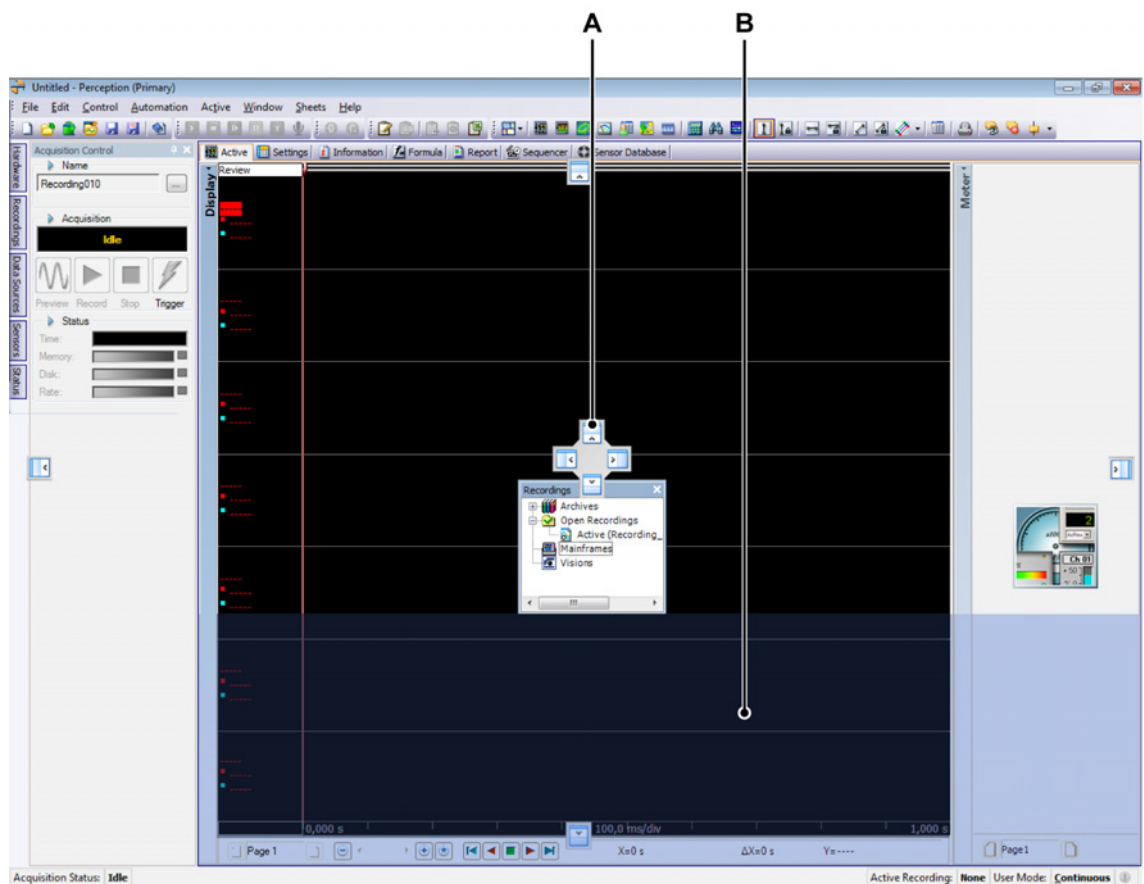
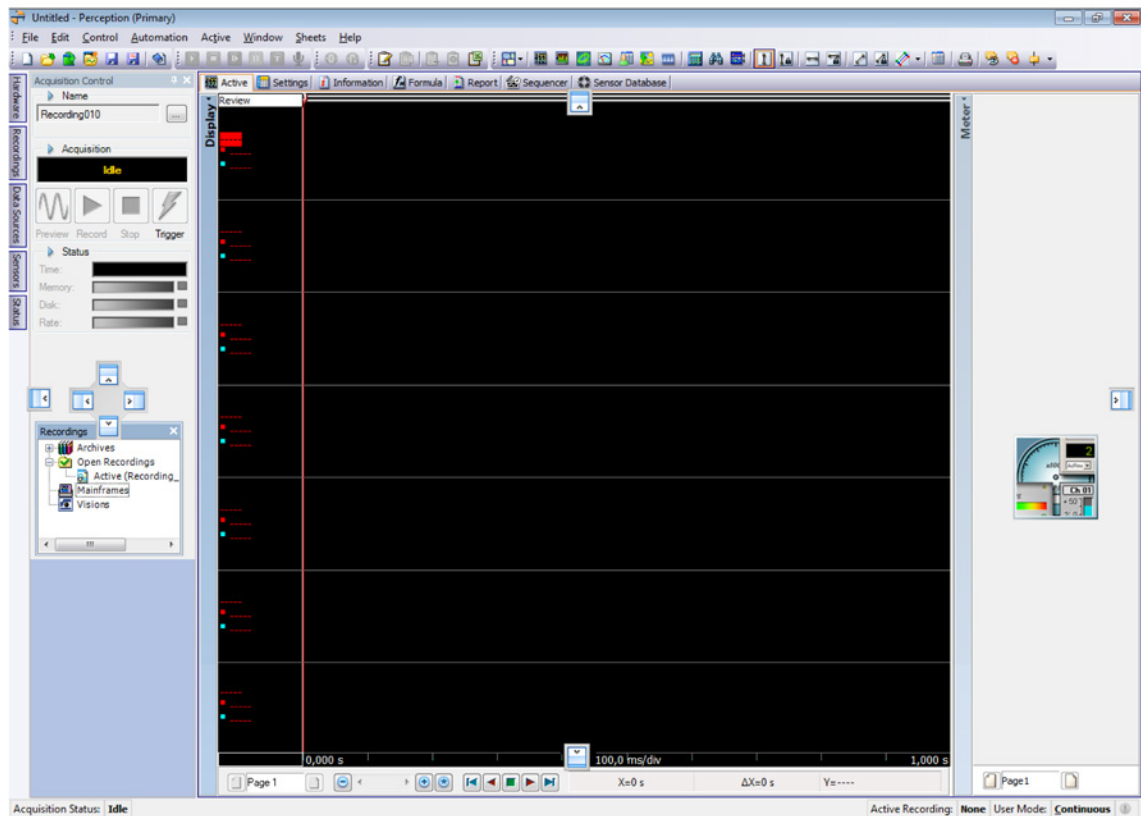

Figure 3.8: Palette position main area
Figure 3.9: Palette position relative
- 3 Position the mouse pointer on one of the stickers and release the mouse button to dock the palette. You can either dock in the main area (see Figure 3.8 on page 67) or relative (see Figure 3.9) to an already docked palette.